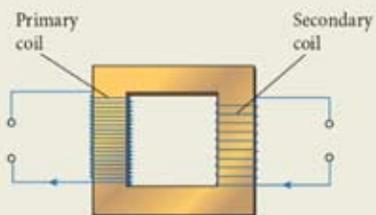

Figure 3
5. Figure 3 shows a type of transformer.